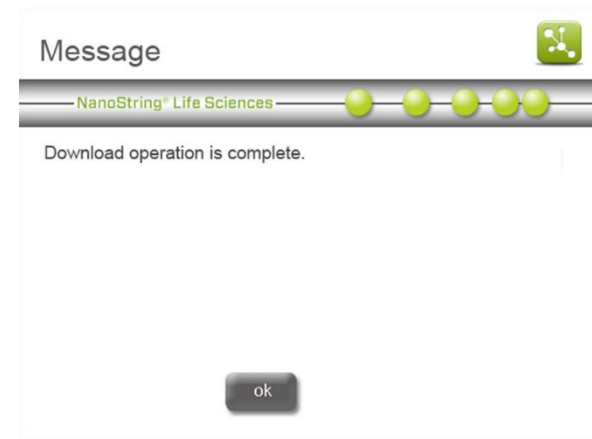

Figure 153: The 'Successful download' message screen
5. When the files have successfully downloaded, a confirmation message will appear (**Figure 153**). Take the USB flash drive out of the instrument and insert it into a personal computer. Email the log files to support@nanosttring.com. A member of the NanoString Technical Support team will review the log files to help determine the cause of any issues.